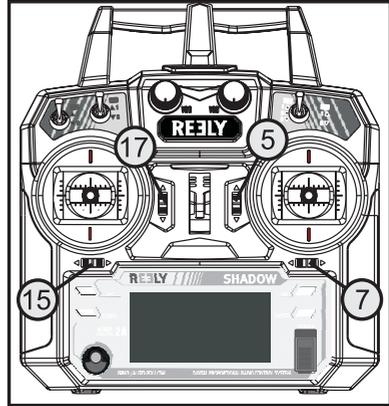

Figure 24
The other three control functions can be set with the trim buttons (see figure 24, items 5, 15 and 17) according to the same scheme as required.